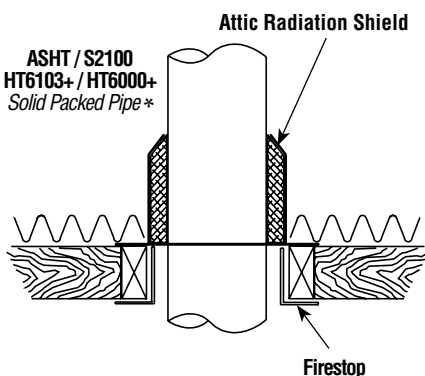
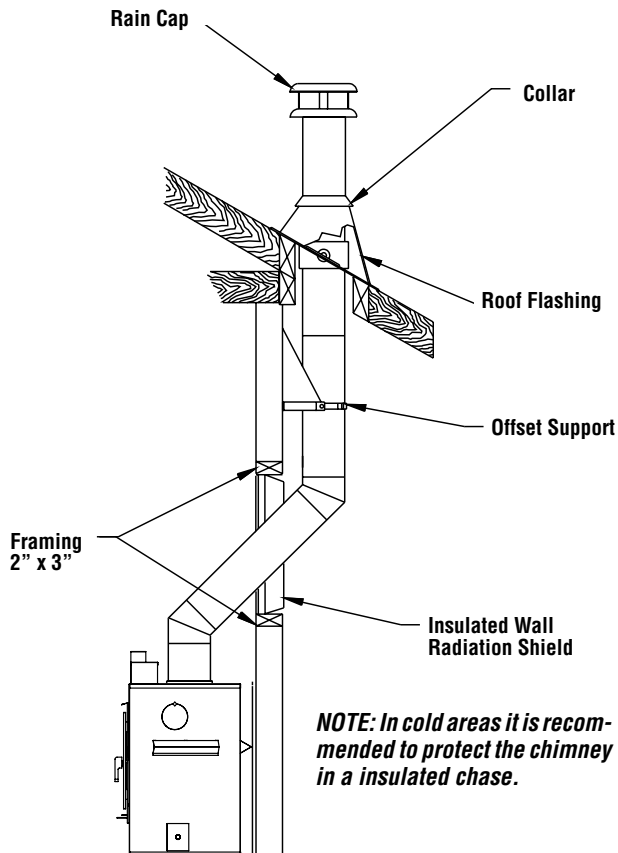

Figure 24a
Figure 30
2. From below, install a firestop in each ceiling/floor separation through which the chimney will pass. At the attic level, install an attic radiation shield from above (**Figure 24a**).
1. Install the first elbow; turn it in the required direction. Fasten it to the chimney with the three (3) 1/2" (12 mm) metal screws provided with the elbow.
2. Install the necessary chimney lengths to achieve the required offset. Lock the chimney lengths together: it is recommended to use three (3) 1/2" (12 mm) screws. If the offset length is made of two (2) chimney lengths or more, use an offset or roof support halfway up the offset. If penetrating a wall, install a wall radiation shield (see **Figures 30 and 31**).
3. Use another elbow to turn the chimney vertically. Secure the elbow, using three (3) 1/2" (12 mm) screws (provided with the elbow).
5. From below, install a firestop (See **Figure 24a**).